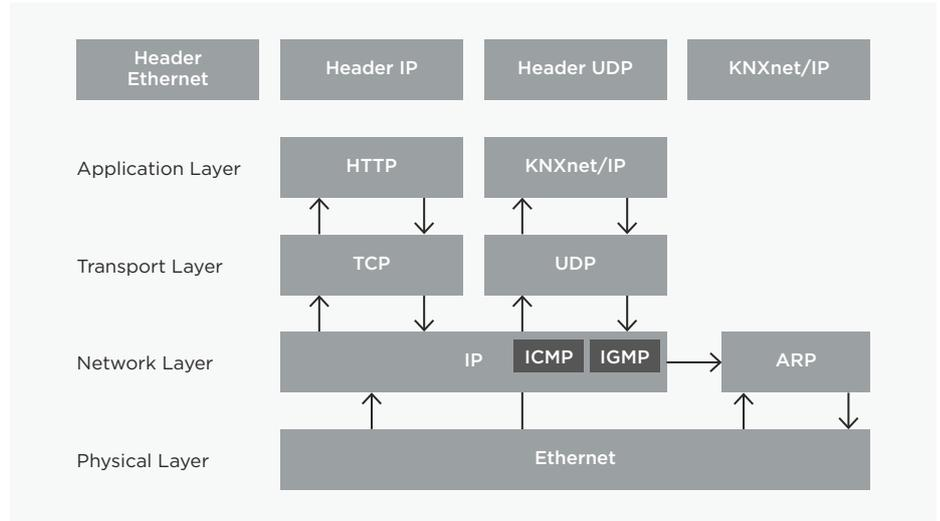

Figure 15. KNXnet/IP in the OSI reference model
The KNX system uses two Ethernet communication methods – tunneling and routing – both of which use the UDP protocol. Tunneling is used to access the bus from a local network or the internet for purposes of e. g. programming the KNX installation, while routing is used for exchanging telegrams over an Ethernet network, e. g. to couple two KNX TP systems via Ethernet. The KNX protocols for these two communication methods are called KNXnet/IP routing and KNXnet/IP tunneling. IP communication in KNX can be explained using the OSI reference model (Fig. 15). Communication takes place via the application layer (which generates the KNXnet/IP telegram), the transport layer (UDP), the network layer (IP), and Ethernet – the physical layer. Like with the TP protocol, additional information for the respective layer (the header) is always added to the KNXnet/IP information.